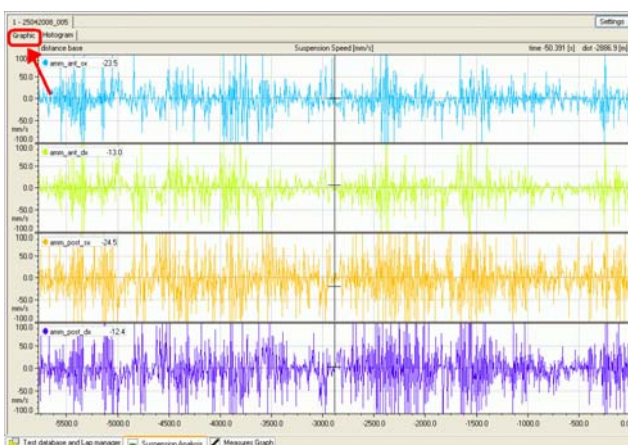

Figure 3a – Graph window.
- **Graphic:** represents punctual values of suspensions reached speeds based on time and distance (figure 3a).
To switch from one layer to the other click on its label (highlighted in red in Figures 3a and 3b).
2. Set “Suspension speed end of scale” box (green box in **Figure 6**) that corresponds to the graph end of scale (vertical axis of Graphic window – **Figure 3a**). It is a modular value (to say that it works both as a positive and as a negative max value). In **Figure 6**, for example, max suspension speed value is  $\pm 100$  mm/s.